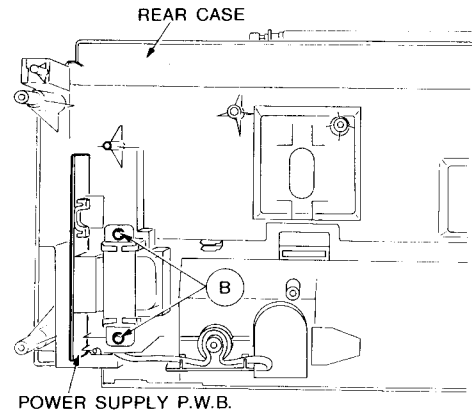

Fig. 4
4. Removing power supply P.W.B. (Fig. 4)